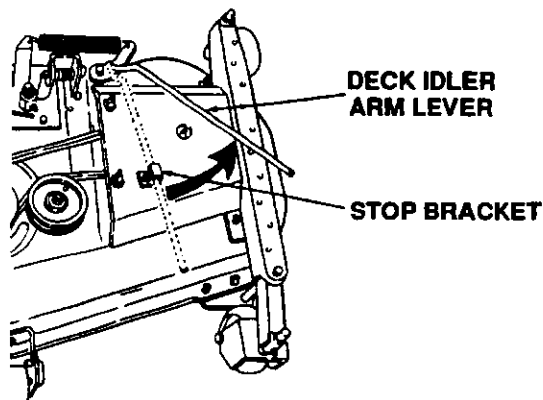

Figure 18
14. Disengage deck idler arm lever from its stop bracket and release the spring tension until the lever is at the outside of the deck. (Refer to Figure 18.)